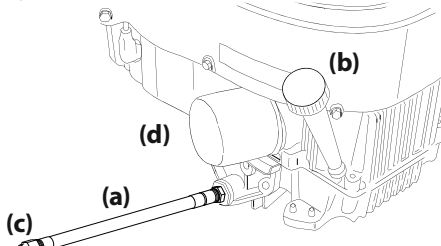

Figure 37
3. While holding the free end of the oil drain hose over the oil collection container, unscrew the square head hose plug (c) from the end of the oil drain hose. See Figure 37. Drain the engine oil into the collection container.